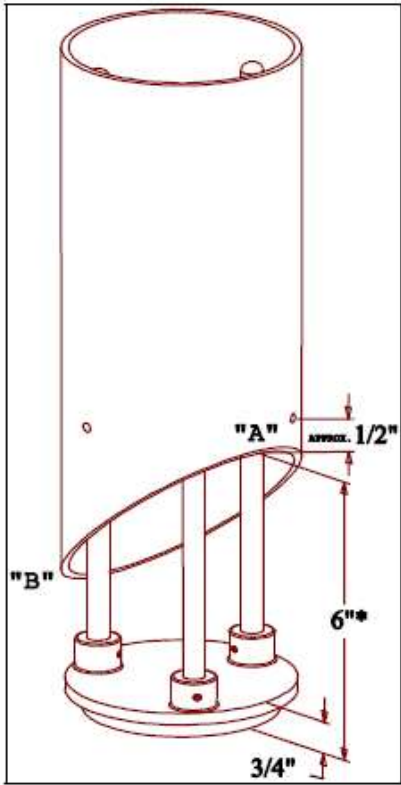

Figure 1
2. Using a # 11 Drill (0.191") - Drill a hole into the fill tube about 1/2" above and 1" to 1 1/16" over from point "A" (see figures 1 and 2). Keep in mind that the OPW Tank Bottom Protector must rest on the bottom of the tank.